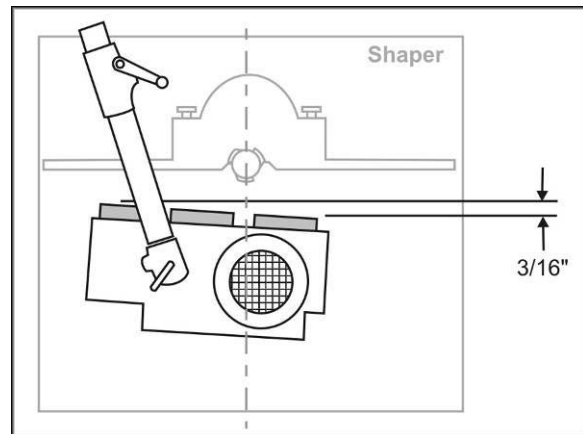

Figure 16
- To ensure that the workpiece is held firmly against the fence, set the stock feeder at a slight angle toward the fence in the direction of feed. In other words, the outfeed roller should be approximately  $3/16''$  (5mm) closer to the fence than the infeed roller. See Figure 16.